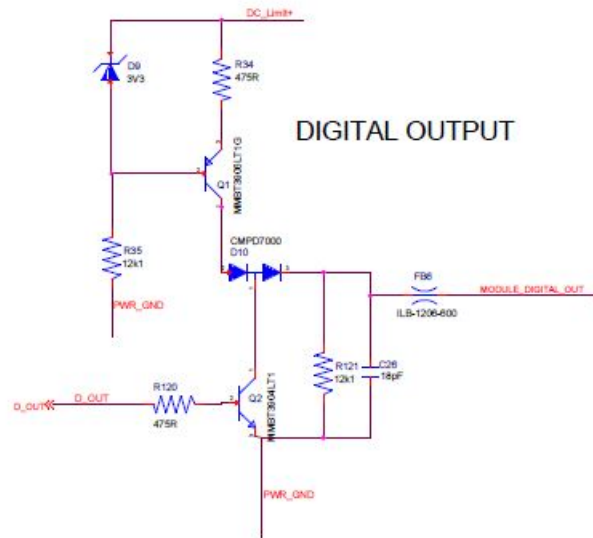

Figure 9: Digital output circuitry generation 1
(3) Refer to schematic shown in Figure 9.